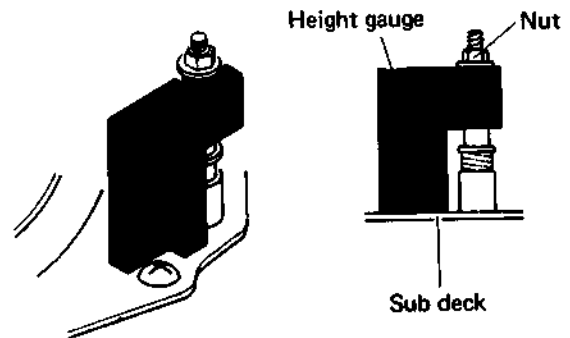

Fig. 5-21 Guide pole height adjustment
2. Use a nutdriver to turn the supply guide pole to align the upper flange of the guide pole with the upper edge of the tape as shown by F of Fig. 5-29. However, this adjustment must be performed so that at the same time, the upper flange remains within ± 0.5 mm of the height adjusting jig portion shown in Fig. 5-21. If there is a large discrepancy, check the height of the supply reel disk, tension pole and other mechanical components.